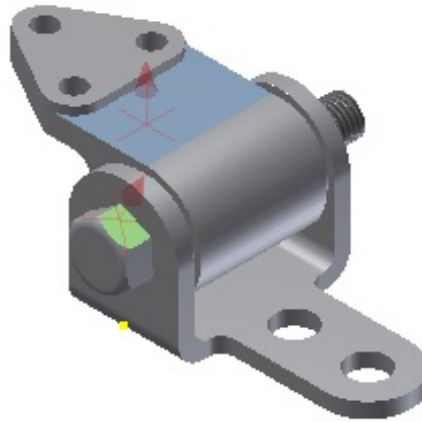

Figure 9-110 Faces selected for applying the **Angle** constraint
8. Select the planar faces of the Body and the Hex Bolt in the assembly, as shown in Figure 9-110.